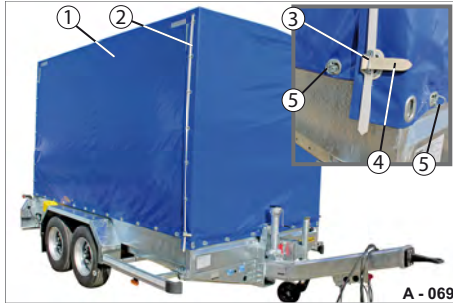

Fig. 73 Side curtain section
- ▶ Open the clasp (Fig. 73/4).
- ▶ Pull the belt band (Fig. 73/2) upwards out of the eyes (Fig. 73/3).
- ▶ Pull and rotate all side cramps (Fig. 73/5).